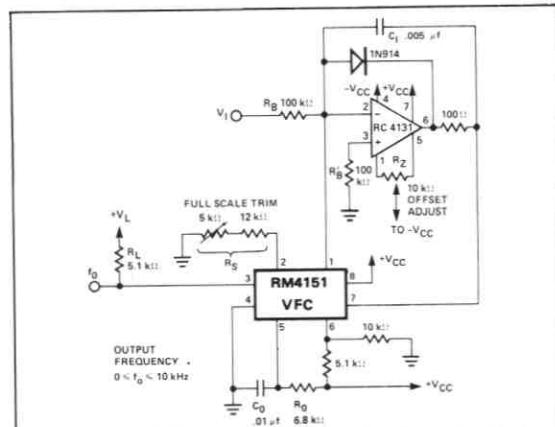

Figure 5. Precision Voltage-to-Frequency Converter
In this application (Figure 5) the 4151 VFC is used with an operational amplifier integrator to provide typical linearity of 0.05% over the range of 0 to -10V. Offset is adjustable to zero. Unlike many VFC designs which lose linearity below 10mV, this circuit retains linearity over the full range of input voltage, all the way to 0V.
- Set R_S = 14kΩ or use a 12k resistor and 5k pot as shown in the figures. (The only exception to this is Figure 5.)
- b) For the precision mode circuit of Figure 5, set R_B = $\frac{V_{IO}}{100\mu A}$ where V_{IO} is the full scale input voltage.
- Design a precision VFC (from Figure 5) with f₀ = 100kHz and V_{IO} = -10V.